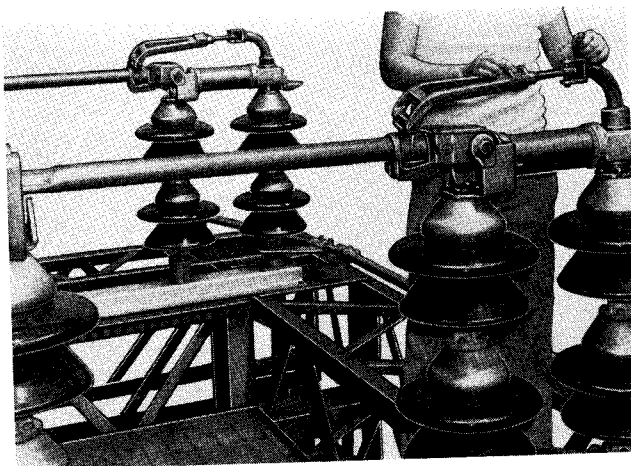

Fig. 2.
(B) The next step is to close the switch blade slowly by rotating the rear insulator stack and again observe the blade tip as it enters the break jaw. The blade tip should enter into the break jaw until it touches the blade stop, and then rotate to establish contact pressure. **The blade should not be forced against the stop.** If it is forced too tightly against the stop the effort required to rotate the blade becomes very high. This positioning of the blade tip in the break jaw is controlled by the adjusting nut in the blade operating linkage. If the action of the blade tip in the break jaw is not correct it will be necessary to readjust this nut. Refer to Fig. 2 for this adjustment. First remove the adjusting nut cover. To cause the blade tip to go farther down into the break jaw, rotate this nut clockwise when viewed from the hinge end of the pole units. To raise the blade tip higher in the break jaw, the nut should be rotated counter-clockwise when viewed from the hinge end of the pole unit. When the correct setting of this nut is obtained, replace the cover and the cover holding bolt.